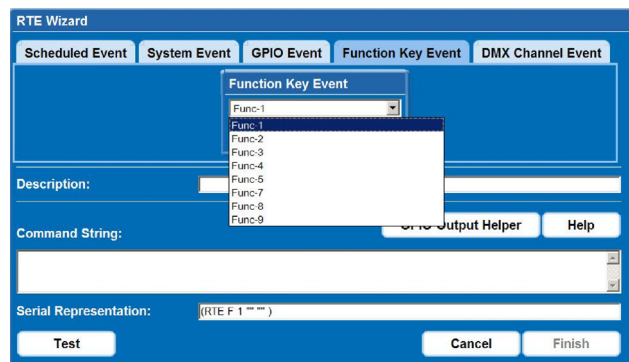

FIGURE 4-20 FUNCTION KEY EVENT
3. Select a **Function** key from the drop-down list as shown in *Figure 4-20 Function Key Event*. Refer to *Section 3: Operation* for detailed information.